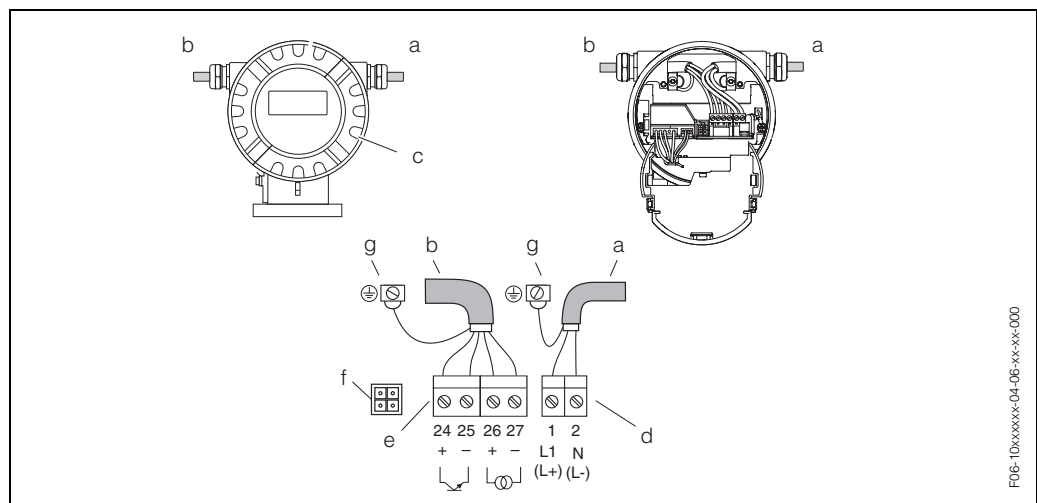

Fig. 27: Connecting the transmitter (aluminium field housing). Cable cross-section: max. 2.5 mm²
- Wiring diagram → Fig. 27
Wiring as per wiring diagram Fig. 27, Page 40